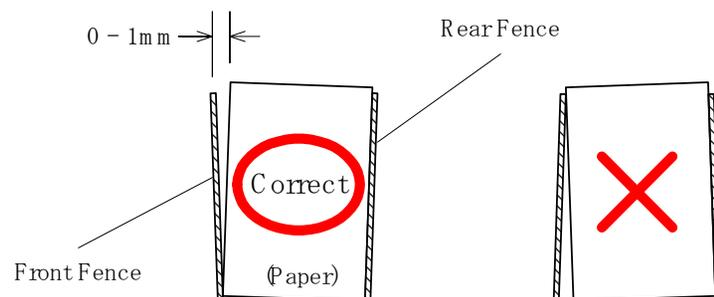

Fig. 2: Upper Area Paper-Fence Gap
- It is essential to make the measurement on the upper area, as shown in Figure 2 below.